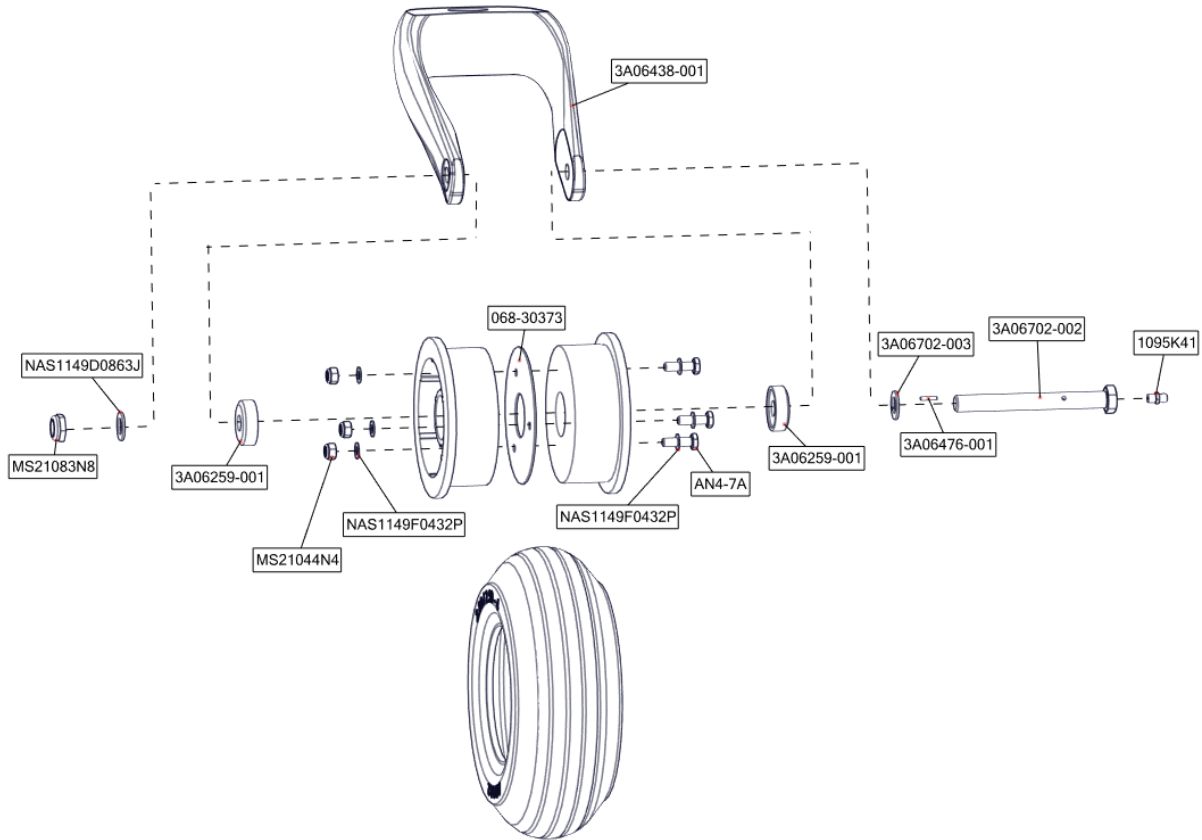

FIGURE 3: 3000, 3730, 3450, 4000 PARKER ASSEMBLY
- Figure 3: 3000, 3730, 3450, 4000 Parker Assembly